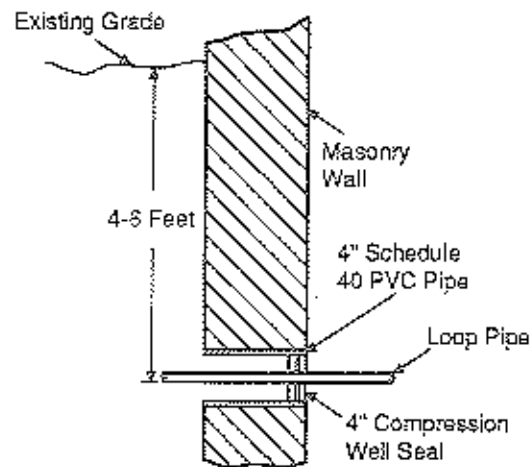

Figure 5
*New and Retrofit Construction:* Bring the pipe through the wall as shown in Figure 5. For applications in which loop temperature may fall below freezing, insulate pipes at least 4 feet into the trench to prevent ice forming near the wall.